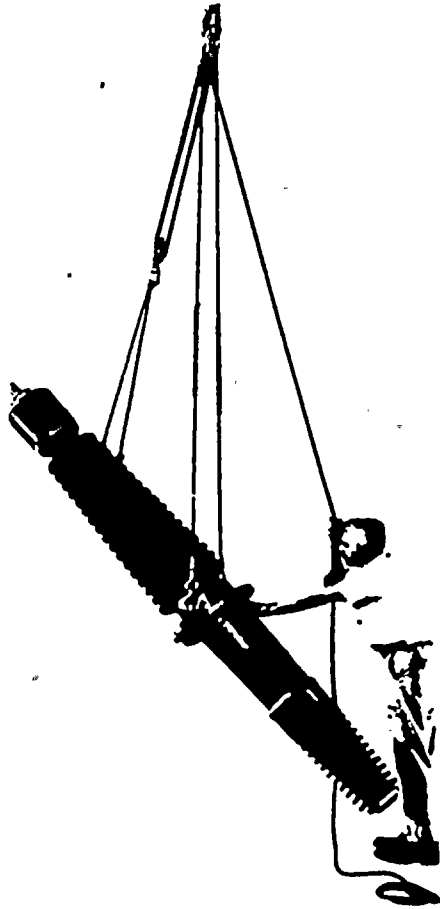

Figure 3.
B. Attach rigging similar to that shown in Figure 3 to the bushing:
- (1) Attach the main harness to the lifting eyes on the bushing flange.
- (2) Attach an auxiliary tackle to a sling around the top of the bushing.
1. Attach the main sling of the lifting rig to the lifting eyes in the bushing flange (Figure 3).
2. Attach the auxiliary sling of the rig at the top of the bushing for positioning (Figure 3).